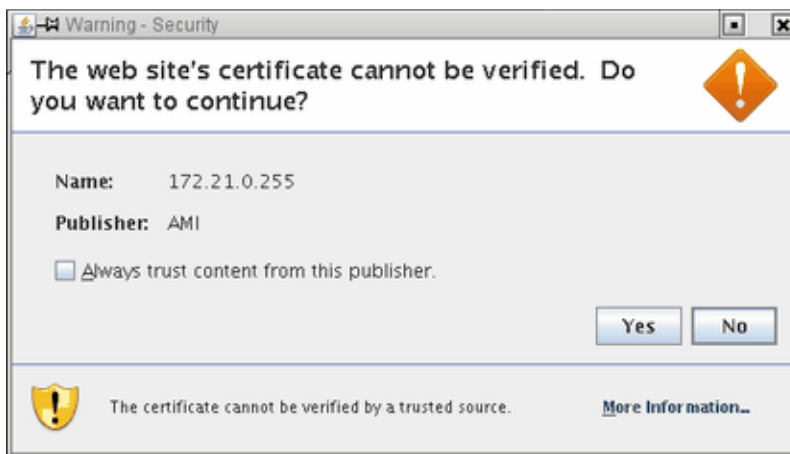

Figure 3-6 Web site Warning-Security Screen
9. You will then get a screen about **The web site's certificate cannot be verified. Do you want to continue?**, as shown in Figure 3-6 on page 42. Click the **Yes** button to continue. You can also click the checkbox to keep it from showing up later.